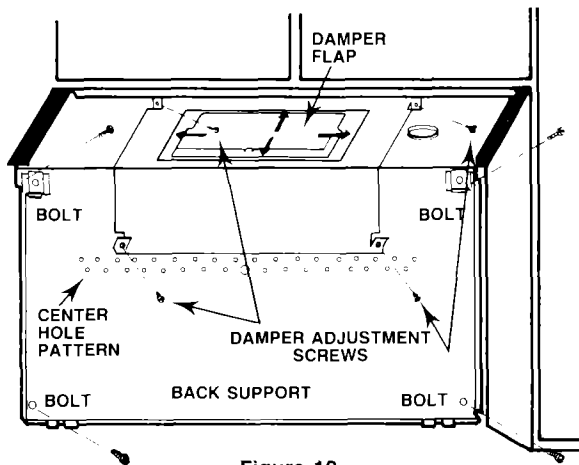

Figure 19
1. Lift back support into place. Secure to wall with four (4) 1/4" x 1-1/2" bolts in the corners of back support. (See figure 19.)
2. If adjustment is needed to center damper in cabinet cutout, loosen four (4) screws shown in (Figure 19), center damper and retighten.